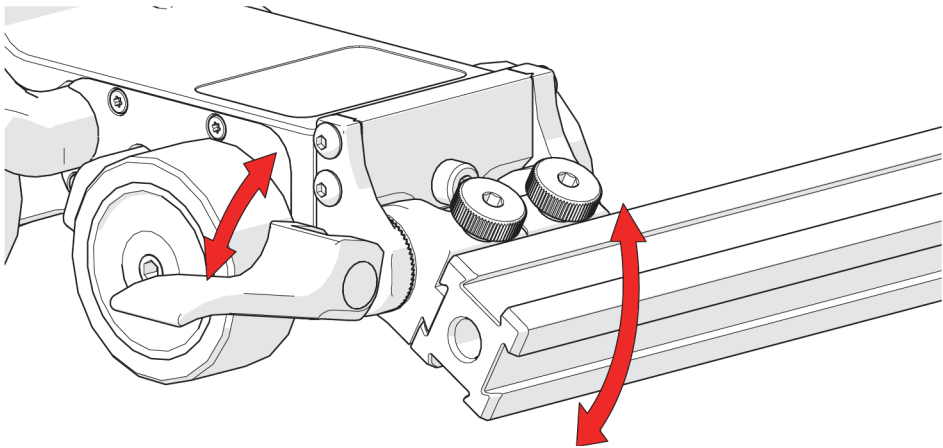

Figure 2-9 Adjusting the pivot angle
3. Loosen the side-mounted lever and pivot to the desired angle, then close the side-mounted lever to lock the frame bar in position (see Figure 2-9 on page 43).